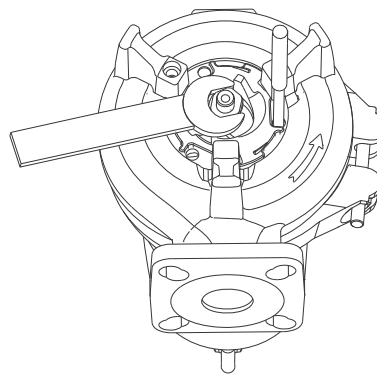

Fig. 9 Dismantling the screw and grinder head
6. Insert the punch (F) into the hole to hold the impeller to prevent it from moving during dismantling.
7. Remove the screw (188a). Remove the locking ring (66). See fig. 9.